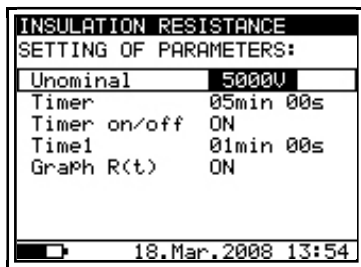

Fig. 13. Set-up menu in Insulation Resistance measurement
- Press the SELECT key, the set-up menu will appear on the display, see the Fig 13.